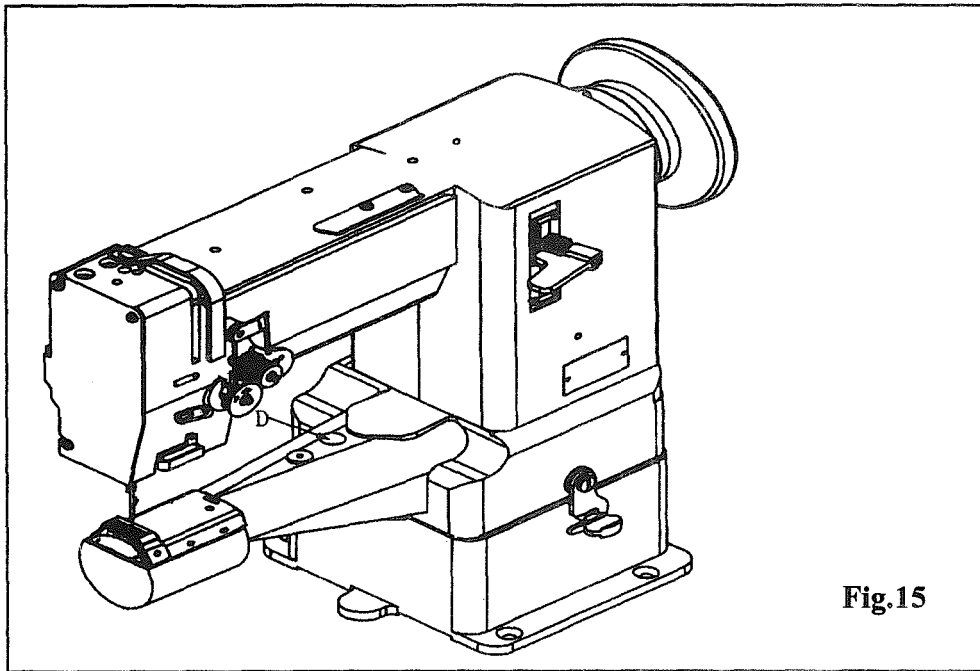

Fig.15
13、 RE-SET THE SAFETY CLUTCH MECHANISM (Fig.15)